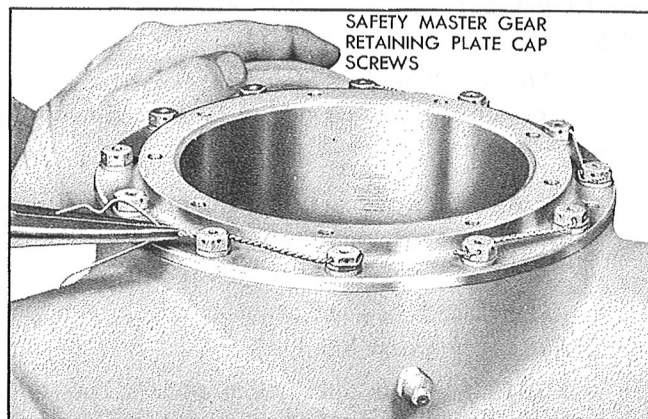

Figure 105—Installation of Master Gear Retaining Plate
**Step 8.**—Replace the master gear retaining plate and secure it with the  $\frac{1}{4}$ " x 28 attaching capscrews. Safety with .032" wire. See Figure 105.